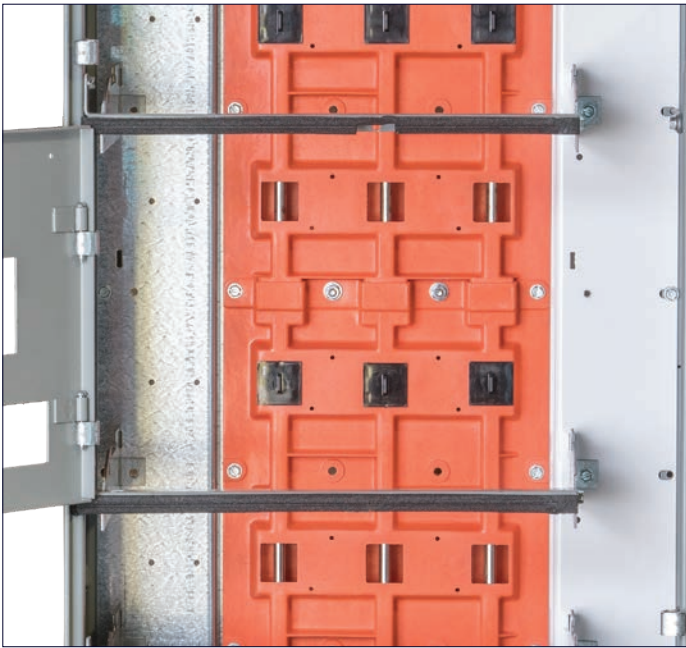

Figure 5: Uncovered stab holes
- 9d. Remove stab-hole covers at appropriate heights and replace covers on unused stab holes. Stab-hole covers should be arranged so that the only uncovered openings are those to which a unit will be connected (refer to Figure 5).